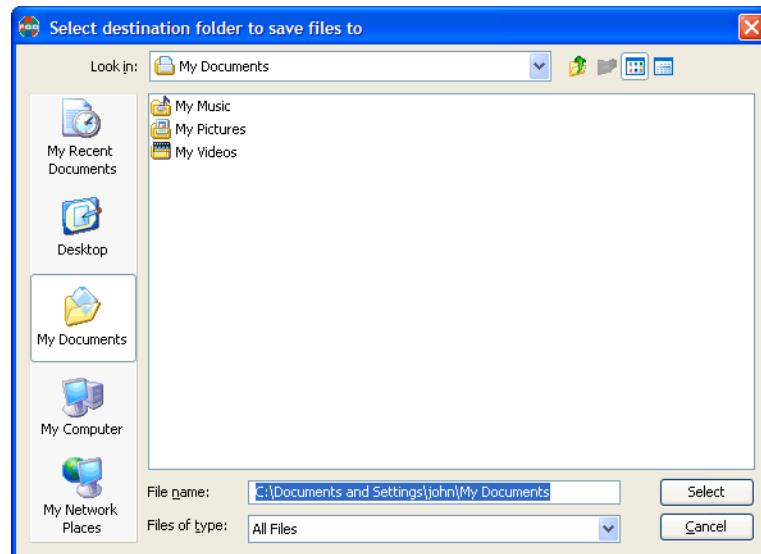

Figure 4-6. FTP Download Destination Folder
Step 5. Click on the **Browse** button in the **Destination** window to navigate to the folder that you wish to store the transferred files within (see Figure 4-6 below). Alternatively if you know the path name you can type this directly into the Pathname entry box.